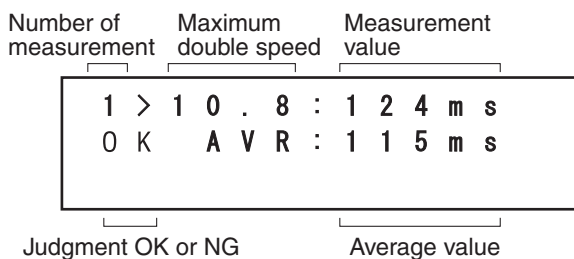

Fig. 1 Example of displaying FL
- The rotation speed and time are displayed in FL (Refer to Fig. 1).